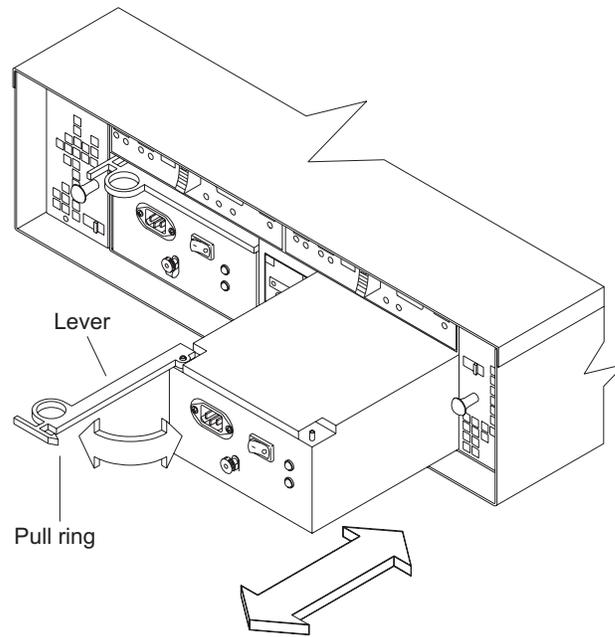

Figure 19. Replacing a power supply
1. Slide one power supply into the expansion unit. Be sure to replace the power supplies so that the lever on each power supply opens toward the interior of the expansion unit, as shown in Figure 19 on page 43.
Attention: Be sure that the lever is pulled straight out as you slide the power supply into the expansion unit, as shown in Figure 19 on page 43.